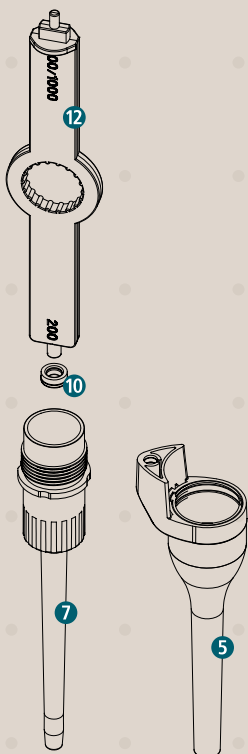

Fig. 6
- Remove the sealing ring **10** from the tip holder using the auxiliary tool (Fig. 6) and replace it (see section 8 Ordering Information for replacement sealing ring).